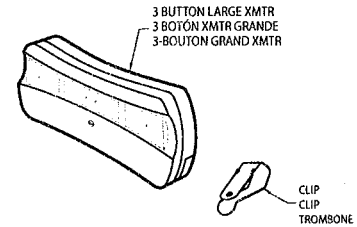

Fig. 2
Step 5-1 Battery replacement Fig. 2.